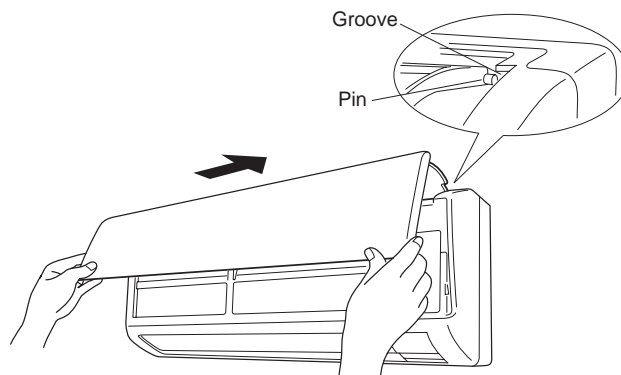

Fig. 12b
- (b) Press the bottom right and left corners of the air intake grille to attach it to the indoor unit. (Fig. 12b)